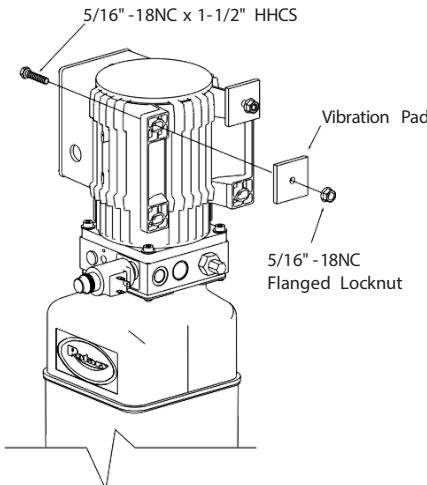
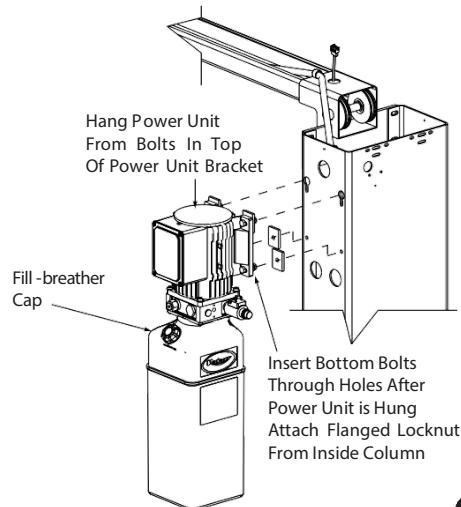
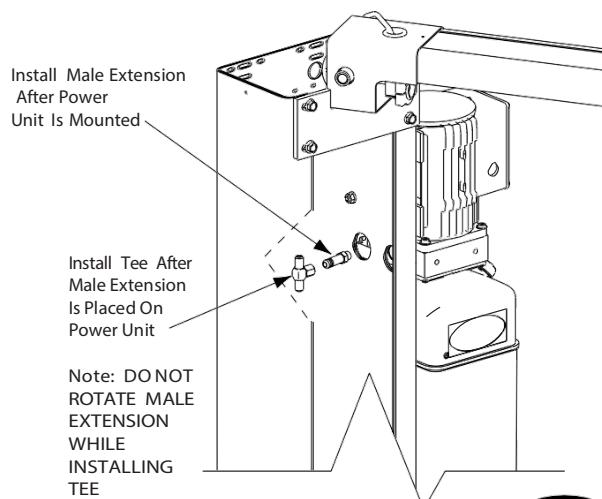

Fig. 10
Fig. 11
Fig. 12
Put (2) 5/16"-18NC x 1-1/2" HHCS through top holes in power unit bracket using Vibration Pad to hold in place, Fig. 10. Install 5/16"-18NC Flanged Nuts until bolt end is flush with end of nut. Install power unit onto column extension, Fig. 11. Slide bolt/nut combination into top set of holes and down to bottom of slot. Install HHCS, Vibration Pad, and Flanged HHCS in bottom power unit holes and tighten. (Be sure to place vibration pad between power unit and column extension). Tighten top HHCS and Nut. Install and hand tighten Male Extension to pump until O-ring is seated, Fig 12. Continue to tighten the locknut to 14- 20Nm (1.4- 2.1kg-m), or until the nut and washer bottom out against the pump manifold.
Install Female Swivel Tee To Male Extension, Fig. 12. Use Flared Fittings Tightening Procedure to tighten the Female Swivel Tee to the Male Extension.